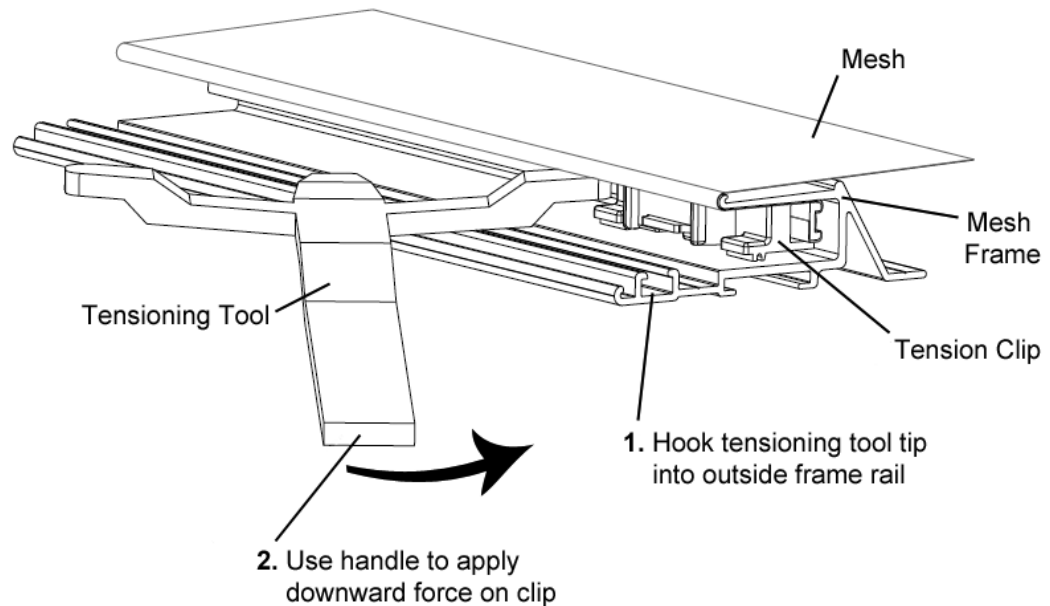

Figure 20: How to Use Tensioning Tool
- f. Use the tensioning tool provided with the mesh replacement kit (part # 0A-1340-2032) to drive the tension clips into the tension channels (**Figure 20**). Start with one or two clicks.